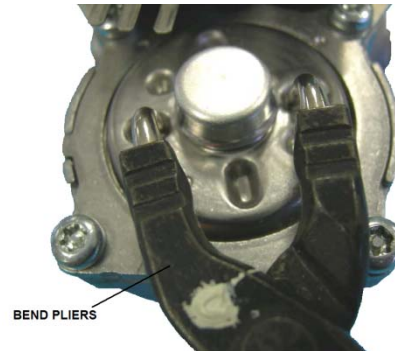

FIGURE 6
19. Position a pair of bend pliers into the slots of the cover dial. See Figure 6.